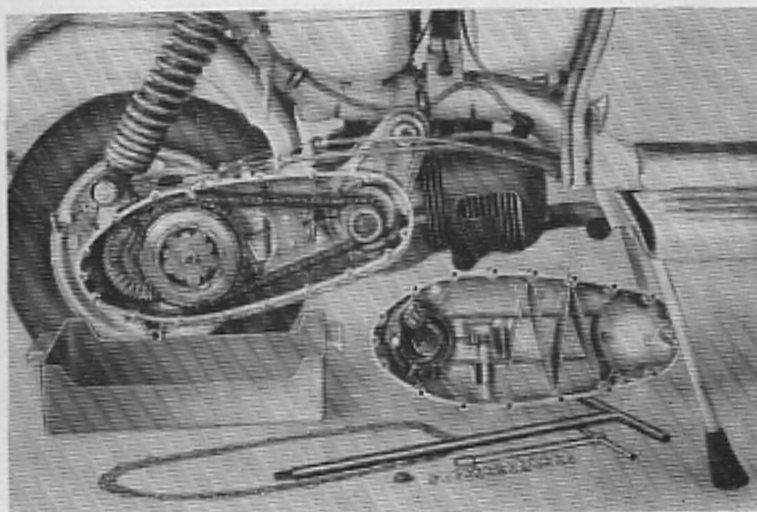

Fig. 2
- 6 Remove crankcase cover by unscrewing the 13 nuts (See fig. 2). To remove the spring washers rapidly it is advisable to use a magnet.